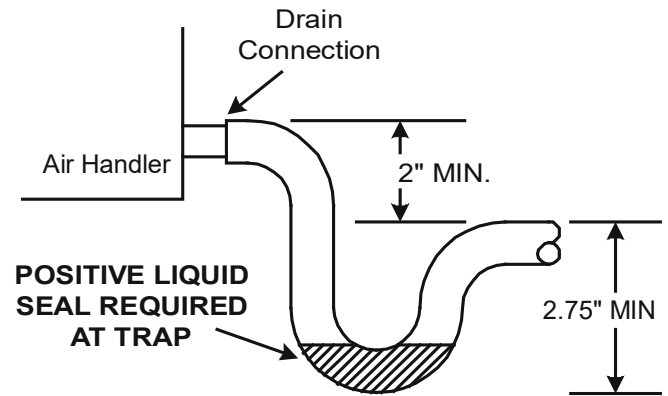

Figure 15
**NOTE: SOME INSTALLATION MAY REQUIRE A FIELD FABRICATED OR FIELD SUPPLIED SECONDARY DRAIN PAN UNDER THE COIL CABINET ENCLOSURE. THE INSTALLATION MUST INCLUDE A "P" STYLE TRAP THAT IS LOCATED AS CLOSE AS IS PRACTICAL TO THE EVAPORATOR COIL SEE FIGURE 15 FOR DETAILS OF A TYPICAL CONDENSATE LINE "P" TRAP.**